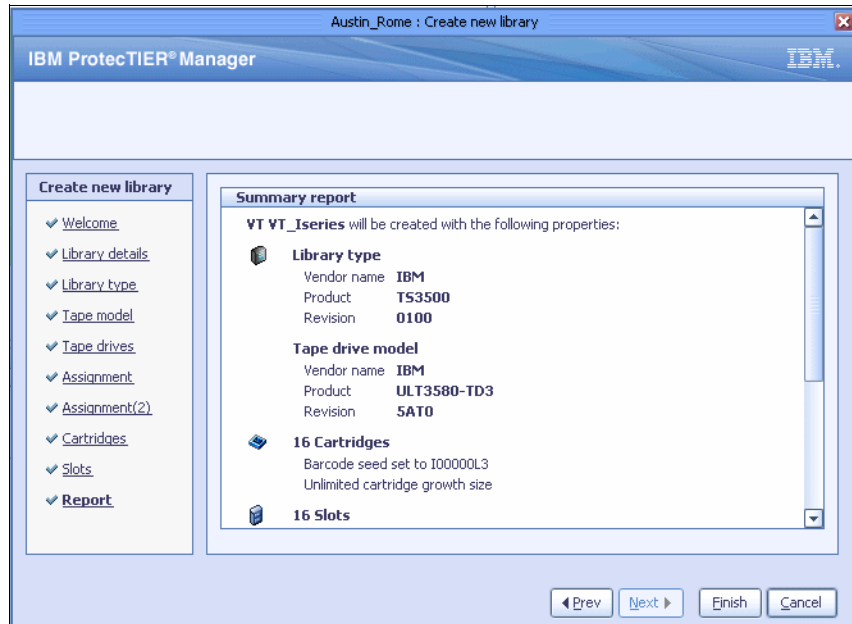

Figure 6-36 Summary report
8. Before the VTL is actually created, check its summary. If you click the **Previous** button, you can still change any feature. After you agree with the defined library, click **Finish**. The summary of our VTL is shown in Figure 6-36.